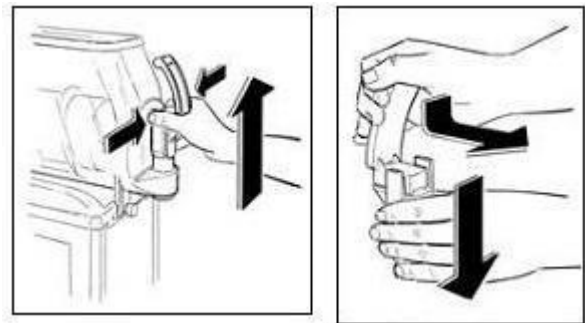

Fig. 14
- Simultaneously press the two securing tabs and lift the tap to extract it from its seat (see fig.14).
- Disassemble the tap by keeping the body pressed down and slipping the lever from its seat (fig.14).